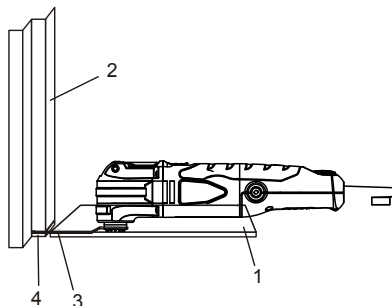
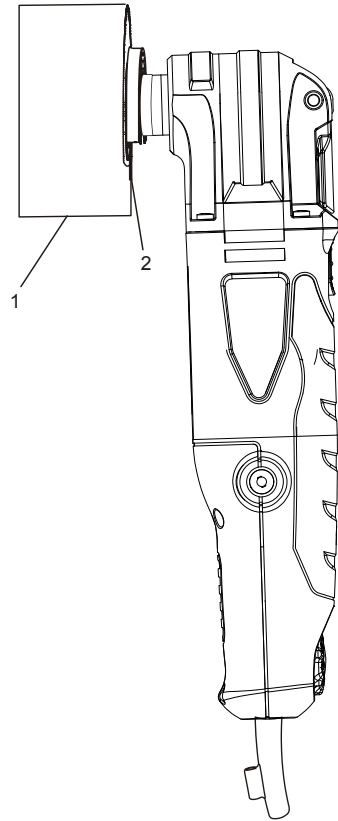

Fig. 8
Fig. 10
2. Place a scrap piece of floor tile (1) on the floor about 1/2" (12.5 mm) from the door jamb (2) (Fig. 8).
2. Place the floor vent on the floor and use a soft lead pencil to trace the required rectangular hole (1) on the flooring (Fig. 10).
3. Place the saw blade (2) near the floor surface in the middle of one of the cutting lines.
4. Set the tool speed at a medium speed (Fig. 8 on Page 12).
2. Place the outlet box on the drywall and use a soft lead pencil to trace the required rectangular hole (1) on the drywall (Fig. 10).